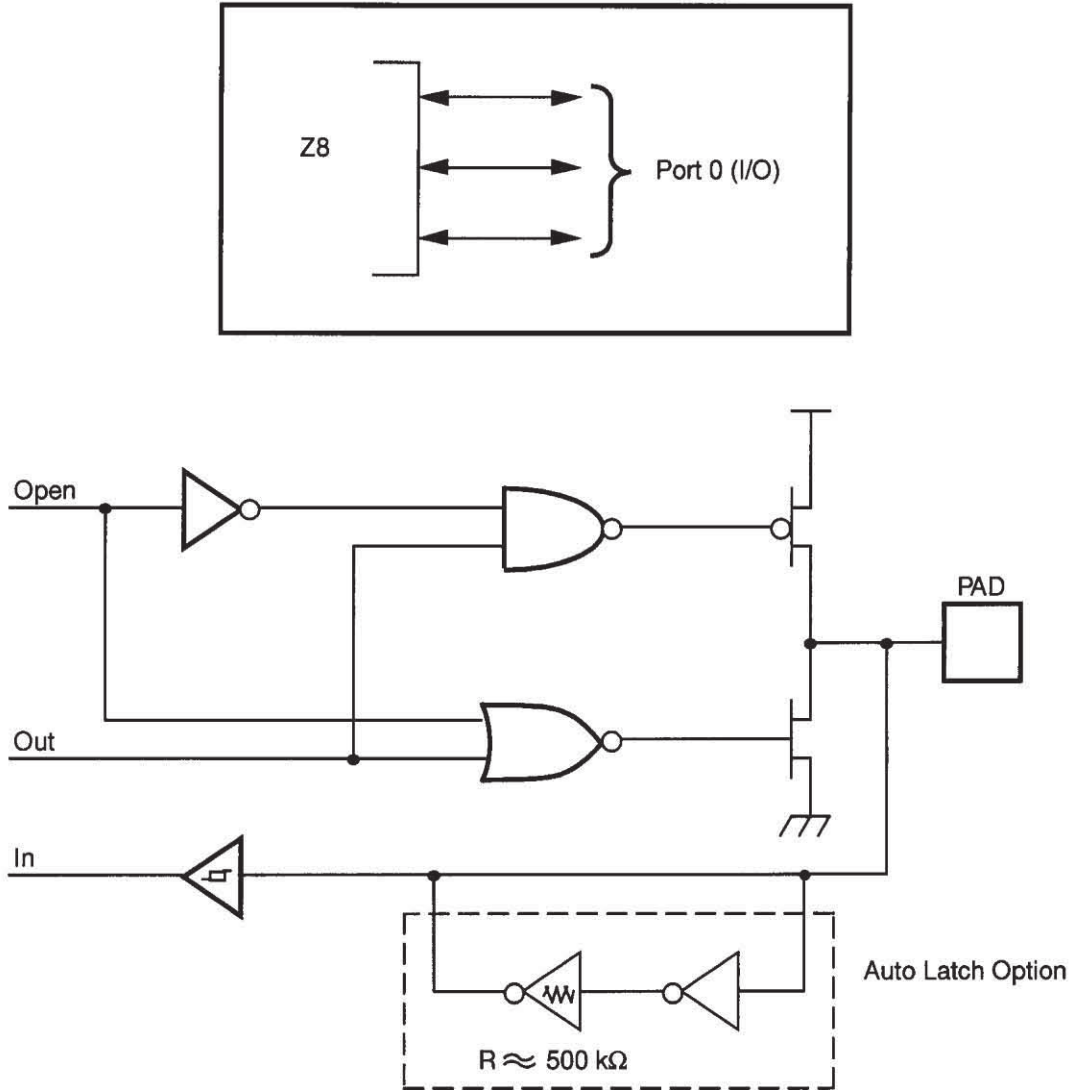

Figure 7. Port 0 Configuration
**Port 0, P02-P00.** Port 0 is a 3-bit bidirectional, Schmitt-triggered CMOS compatible I/O port. These three I/O lines can be globally configured under software control to be inputs or outputs (Figure 7).